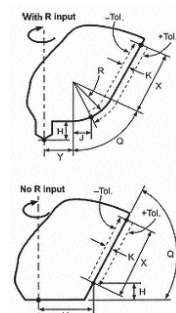

Figure 9 - Profile checking routines
- Measuring profiles (see Figure 9)